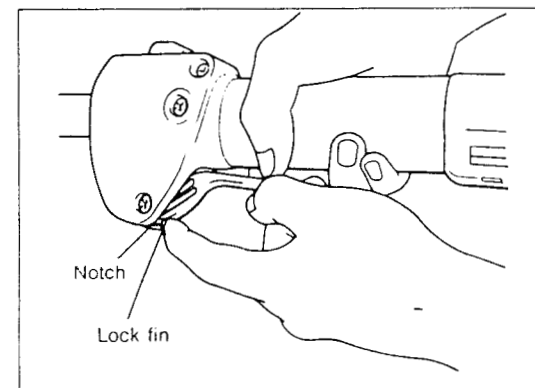

Fig. 20
- ii). Push the lock button while releasing the throttle lever**RBC253 (Fig. 20)**